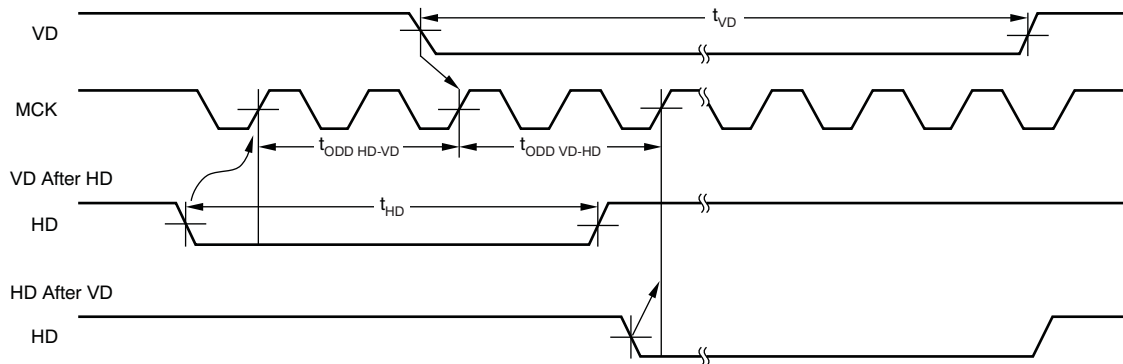
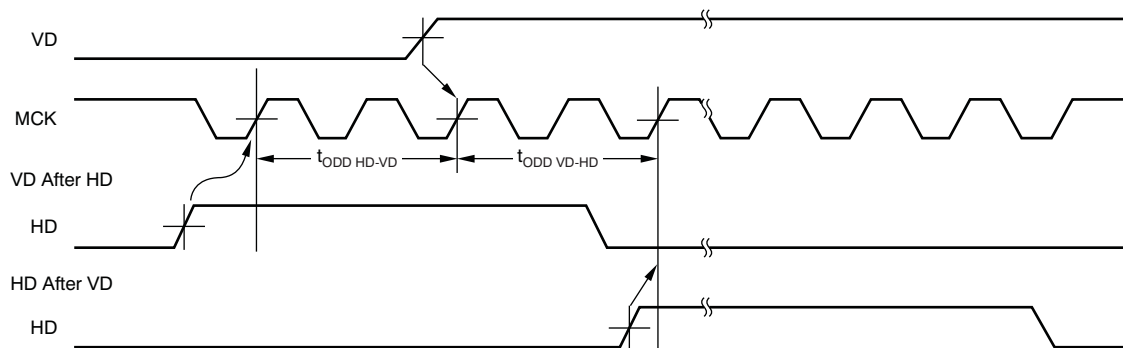

Figure 2. VD, HD Falling Edge Detect
Figure 3. VD, HD Rising Edge Detect
The odd field of the two-field CCD operation and the first field of the even field operation is detected by the VD and HD phase. The delay limit of the VD and HD phase is specified in Figure 2 and Figure 3.
Table 4. Timing Characteristics for Figure 2 and Figure 3 (1)